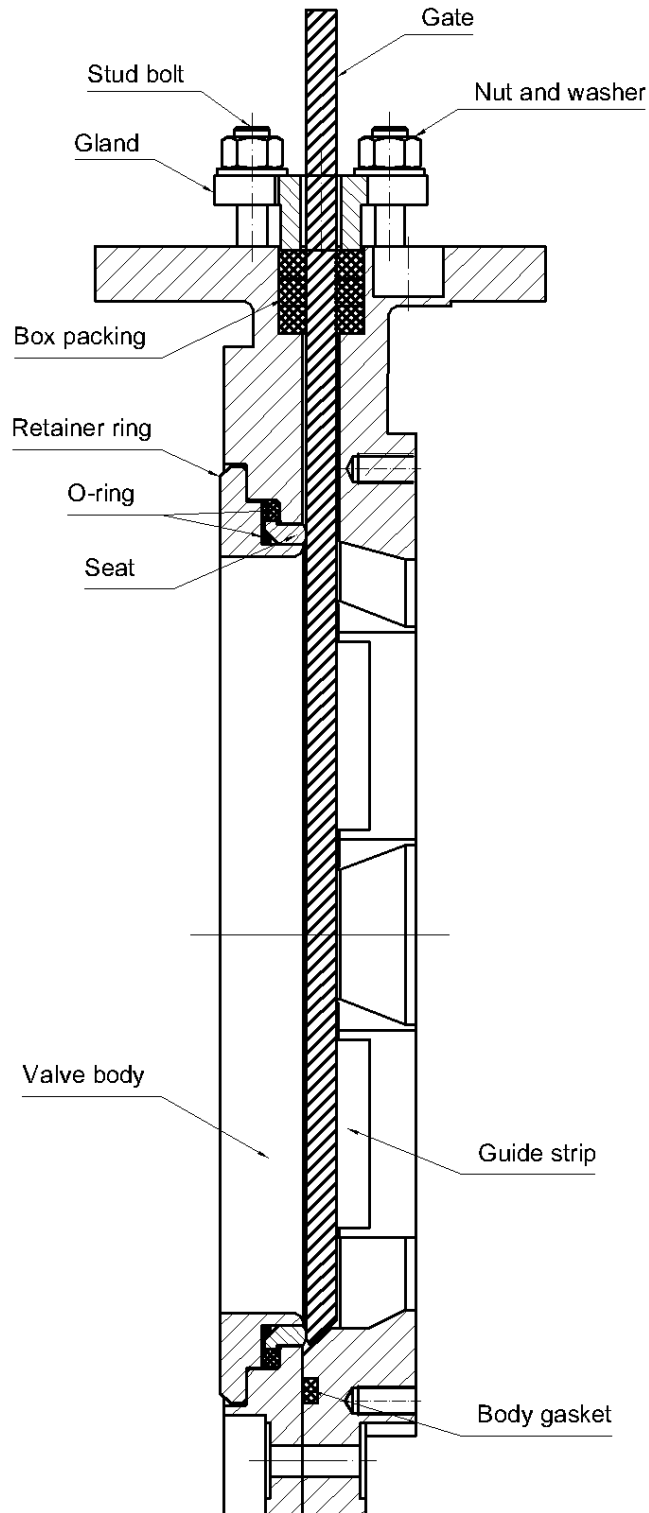

Figure 1 Main components
3. Loosen the nuts (8c) on the gland (8).
4. Lift of the gland (8) from the stud bolts (8a).
5. Remove the box packing braid (9).
7. Remove the gate (6) and check it for damages such as dents and scrapes. If the gate is damaged it can wear out the box packing (9) and the seat (13), causing leakage. Stafsjö recommends changing the gate if it is damaged to ensure the function of the valve.
8. Place the gate (6) in the valve body (10). Check that the gate is placed correctly with the gate chamfer on the cams in the bottom of the valve body, see figure 1.
9. Begin assembling the first braid (9) on one of the long sides of the gate (6). Use a blunt tool in plastic or wood and a hammer to push the braid into the box. Where the braid ends meet, check that the short ends are opposite each other, not on top of each other. It is important to push the first braid evenly into the bottom of the box. The joint of next braid must be placed on the opposite long side of the joint of the previous braid.
10. Place the gland (8) on the stud bolts (8a).
12. Put force on the gland (8) by tightening the nuts (8c) gradually and crosswise. The box packing must be equally compressed all around. Recommended torque for gland nuts, see chapter D.
13. The gland (8) must put uniform force on the box packing (9) and be in level with the top of the valve body (10).
14. The gland (8) must also be in line with the gate (6) with the same distance between the gland and the gate all around. Check that there is no metal contact between the gland (8) and the gate (6).